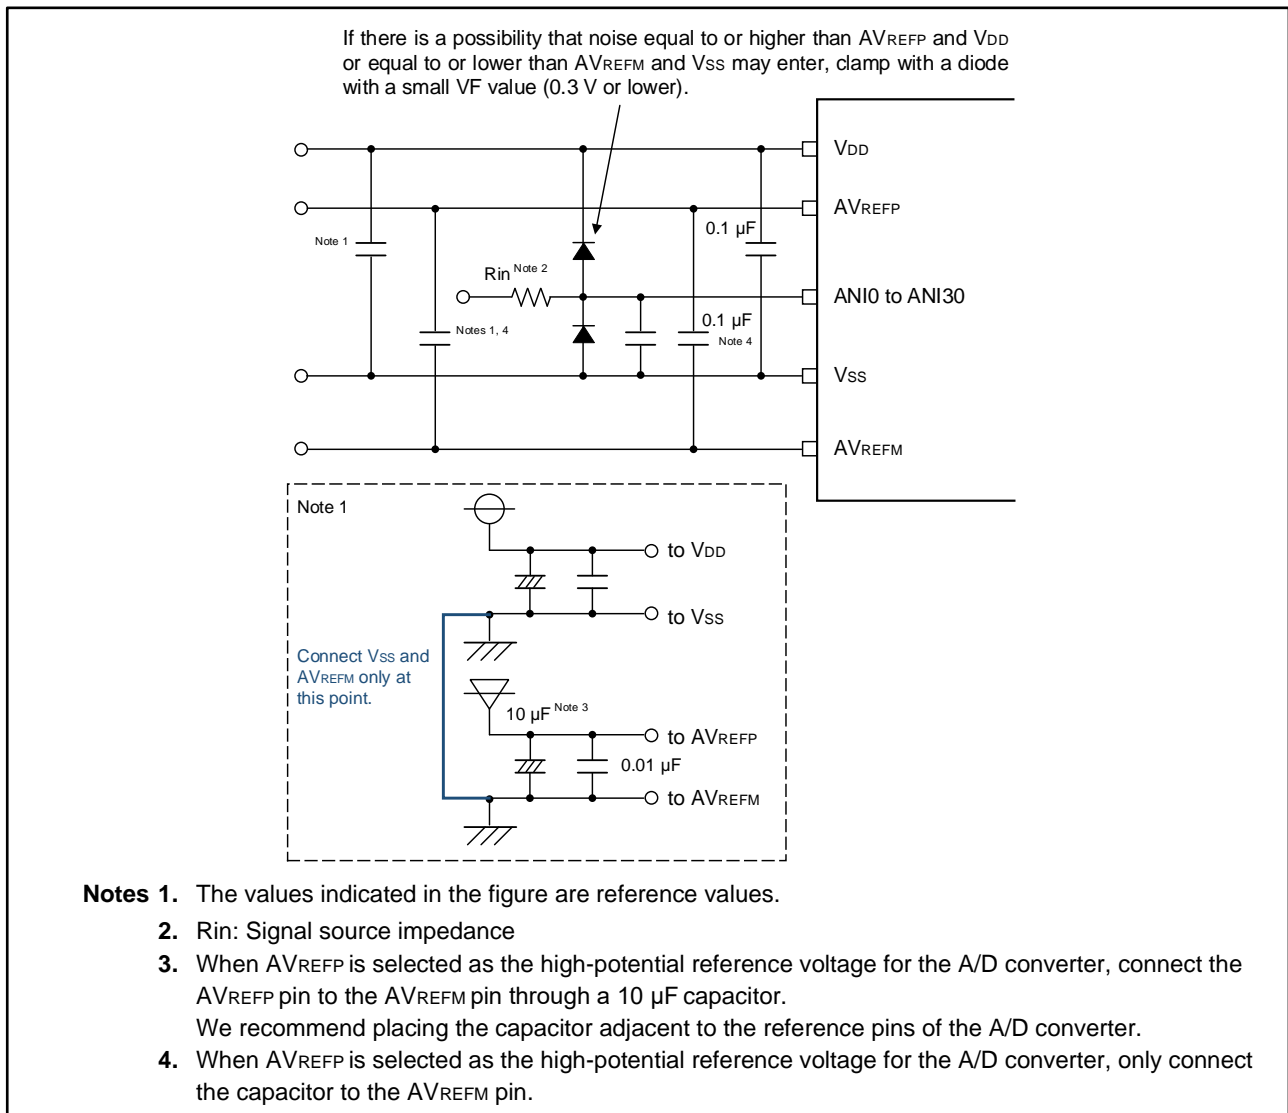

Figure 12: Sample Protection Circuit for Analog Inputs
- To prevent the analog input pins (ANI0 to ANI30) from being destroyed by abnormal voltage such as excessive surge, a capacitor should be inserted between V_{DD} and V_{SS} and between AV_{REFP} and AV_{REFM} , and a protection circuit should be connected to protect the analog input pins (ANIx) as shown in Figure 12.
P.16	The circuit example in Figure 12 has been modified.